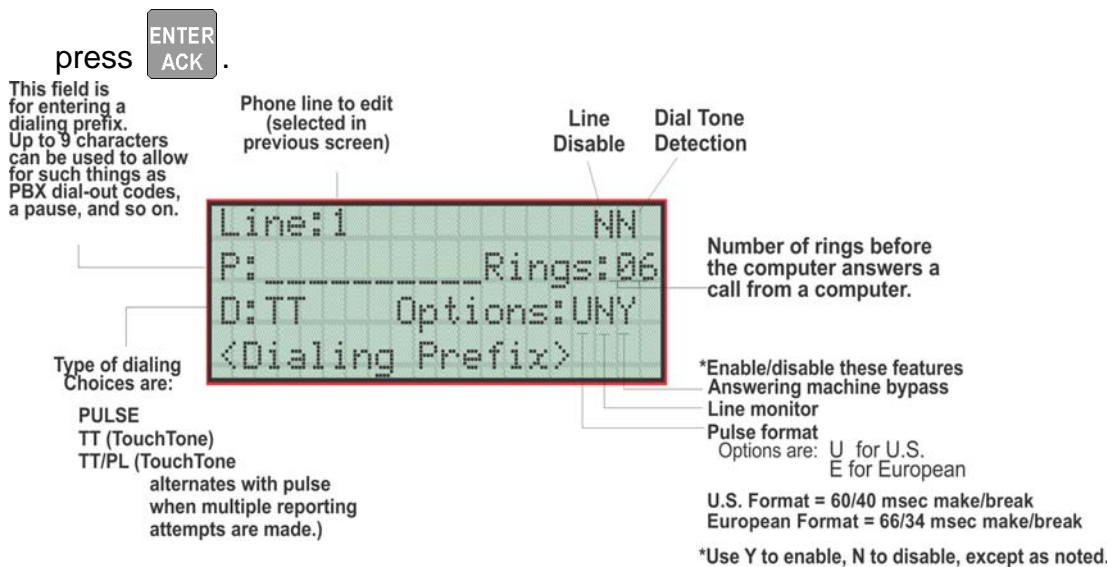

Figure 7-12 Phone Lines Editing Screen
For each account, select which phone line (Line 1 or Line 2) is primary. See Figure 7-12 for an example of how to make this selection.
15. Use the number buttons on the annunciator or the up- and down-arrow keys to select special characters. Characters begin displaying after “9”. See Figure 7-12 for an example.
Use the number buttons on the annunciator or the up- and down-arrow keys to select special characters. Characters begin displaying after “9”. See Figure 7-12 for an example.
Enable the line monitor for each phone line that will be used. See Figure 7-12 for location of this field on the phone lines screen. When the phone line monitor has been enabled for a phone line, a trouble condition will occur if the line is not connected. If a phone line will not be used, it must be disabled.